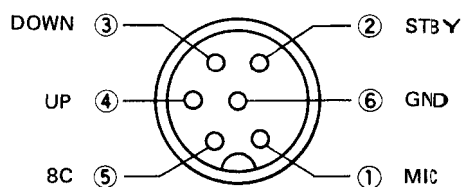

Fig. 11 MIC terminals (view from front panel side)
- Connect MIC connector as shown in Fig. 11.